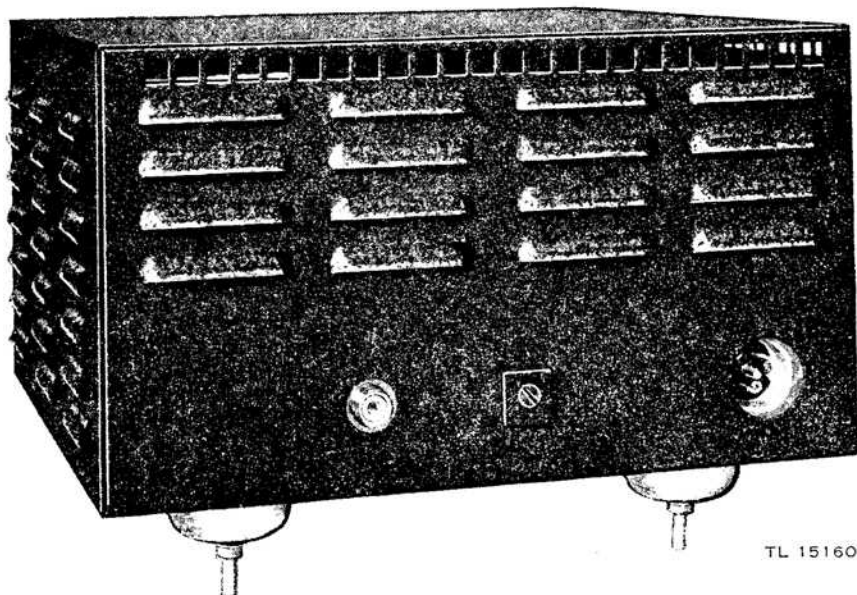

Figure 4. Panoramic Adaptor BC-1031-A, rear view.
(1) Make sure the receiver has an intermediate frequency which corresponds to the input frequency of the adaptor (par. 7).
(2) Cord CD-806 is a coaxial cable with identical male plugs at either end. Fit one plug into the one-pole, threaded, female receptacle near the center of the back of the adaptor (fig. 4). Fit the other end into the receptacle in the radio receiver. If the companion receiver is not provided with a receptacle for operation with a panoramic adaptor, proceed as follows:
**d. Connecting to Power Source.** When the adaptor has been mounted in the position in which it will be used, attach the power cable (Cord CD-807) to the adaptor. This cable is fitted with a polarized plug. A three-pole twist-type power receptacle is located at the back of the adaptor near the right-hand edge (fig. 4). A